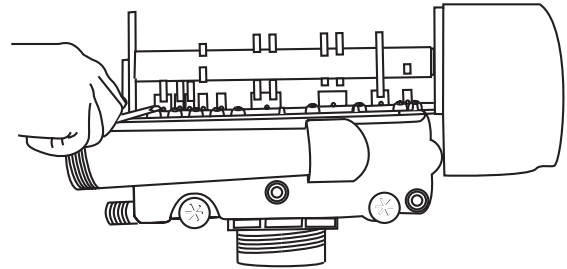

Figure 14
- Relieve system pressure by opening the Backwash Drain Valve (the seventh valve back from the control) with a screwdriver, (Figure 14).
- Relieve pressure by opening the Backwash Drain Valve (the seventh back from the control) with a screwdriver (Figure 14).